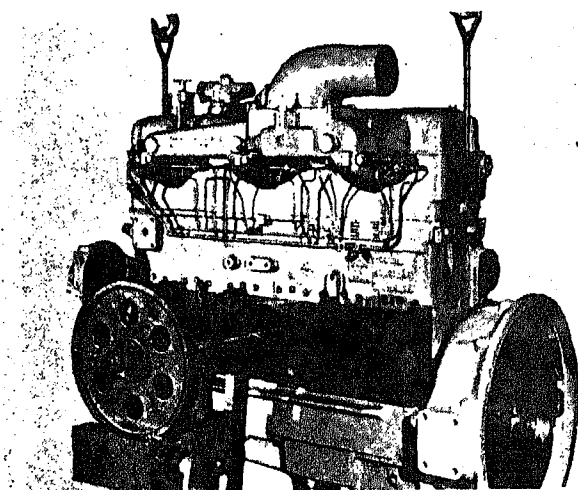

Fig. 0-18. Lifting and mounting engine to Engine Stand N20010
2. Screw lifting screws tightly into tapped holes provided in top of cylinder head; lift engine, Fig. 0-18.